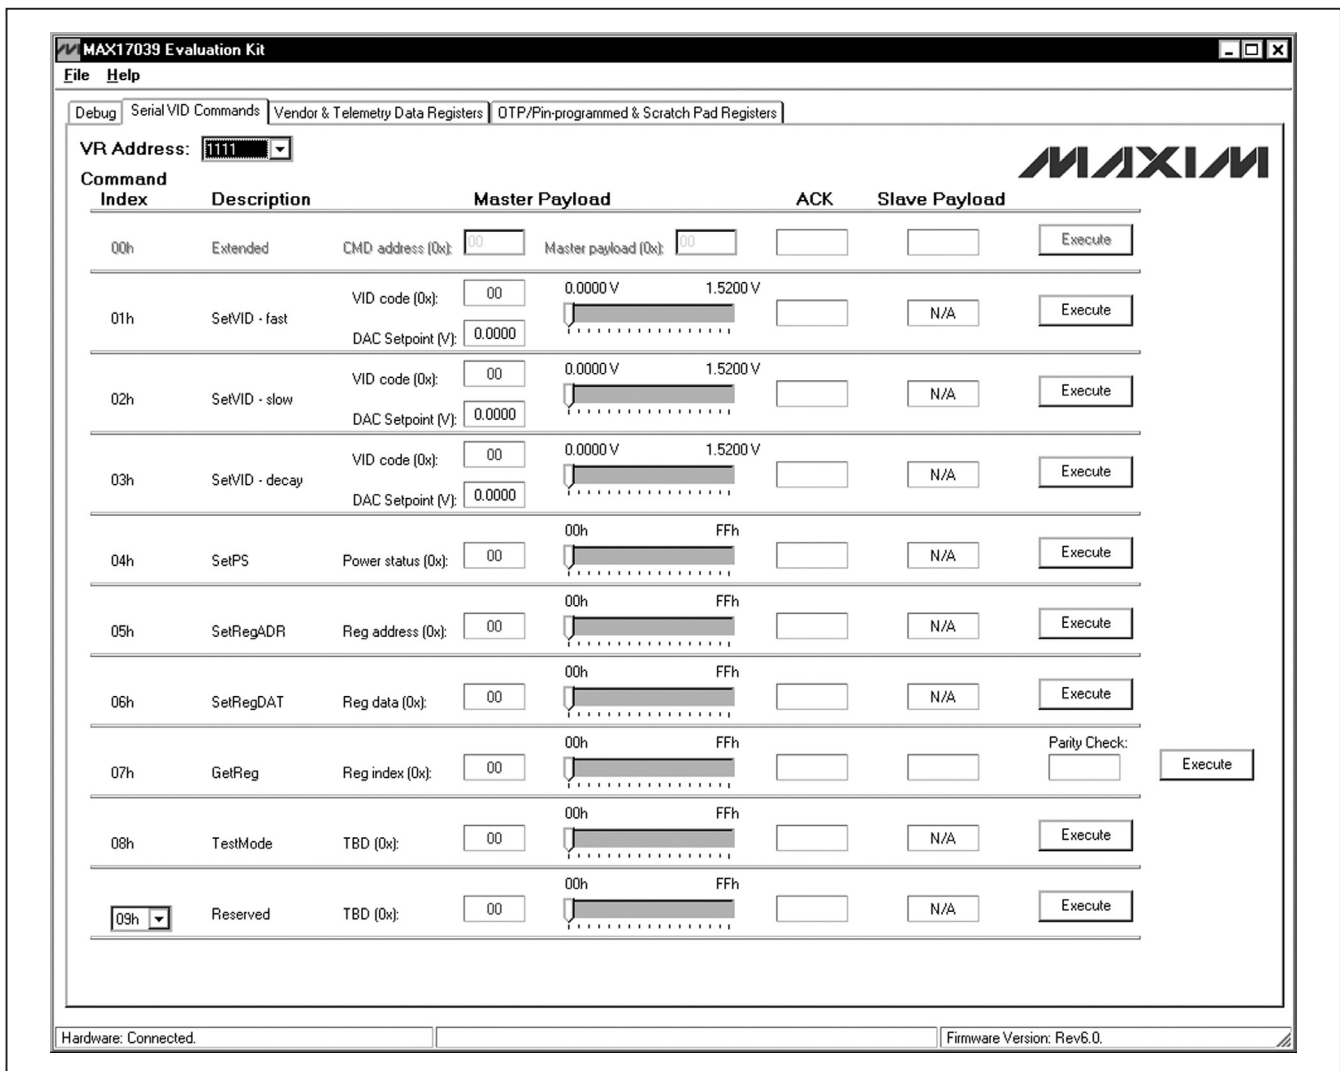

Figure 2. MAX17039 Evaluation Kit Software (Serial VID Commands Tab)
- 9) In the **VR Address** combo box (Figure 2), select **1111** for the MAX17039 voltage regulator.
The **Serial VID Commands** tab sheet (Figure 2) lists all 32 serial VID commands. Some commands are reserved commands for future use. Move the track bars to change